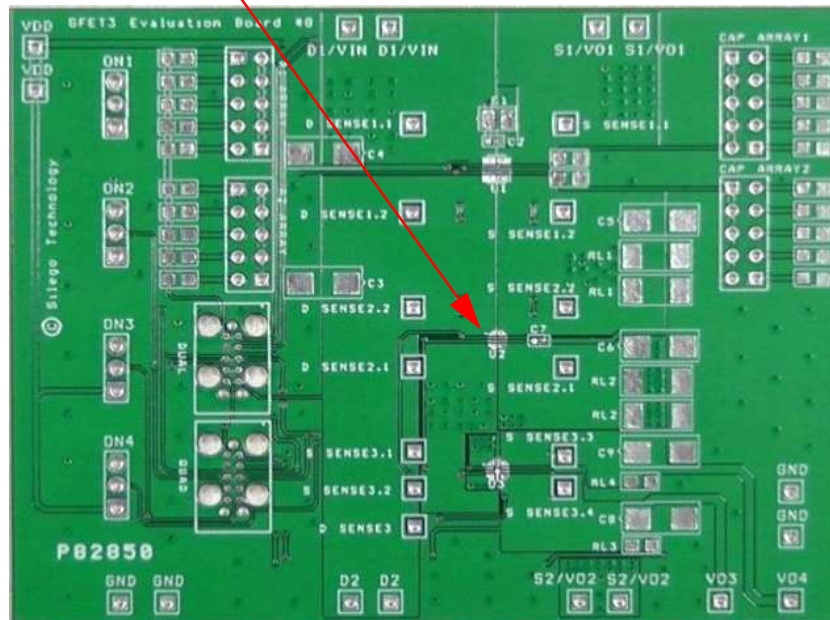

Figure 1. SLG59M1641V Evaluation Board
1. Since the VIN[1,2] and VOUT[1,2] pins dissipate most of the heat generated during high-load current operation, it is highly recommended to make power traces as short, direct, and wide as possible. A good practice is to make power traces with an absolute minimum widths of 15 mils (0.381 mm) per Ampere. A representative layout, shown in Figure 1, illustrates proper techniques for heat to transfer as efficiently as possible out of the device;
A GreenFET Evaluation Board for SLG59M1641V is designed according to the statements above and is illustrated on Figure 1. Please note that evaluation board has D_Sense and S_Sense pads. They cannot carry high currents and dedicated only for RDS_{ON} evaluation.